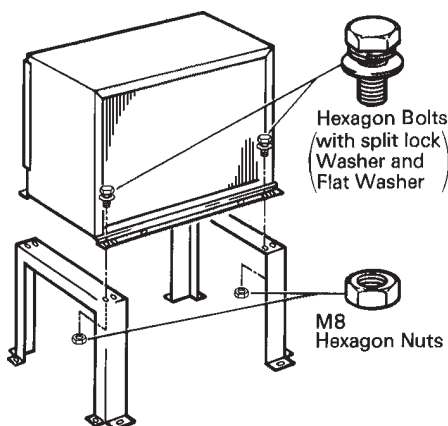

Fig. 4
1) Secure the legs to the condensing unit with eight M8 x 16 mm hexagon bolts and M8 nuts as shown in the illustration. See Fig. 4.